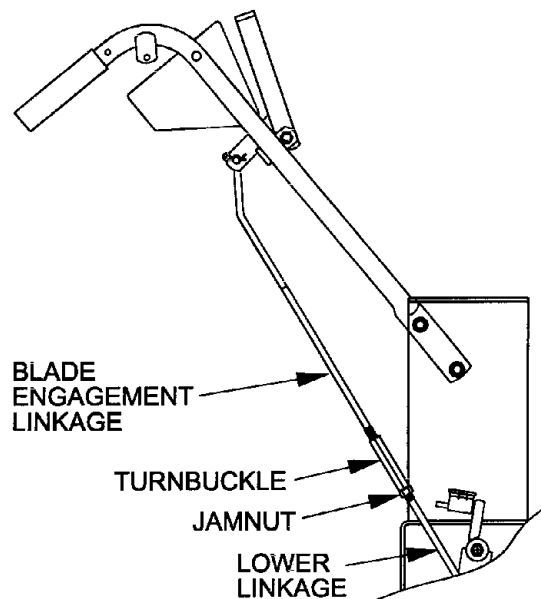

FIG 5
- 3.9 Connect the blade engagement linkages. Loosen jamnut and remove turnbuckle from lower linkage. Screw turnbuckle onto both upper and lower linkages simultaneously (See Fig. 5). Note that threads on upper linkage are left hand. See 5.2.2 for linkage adjustment.